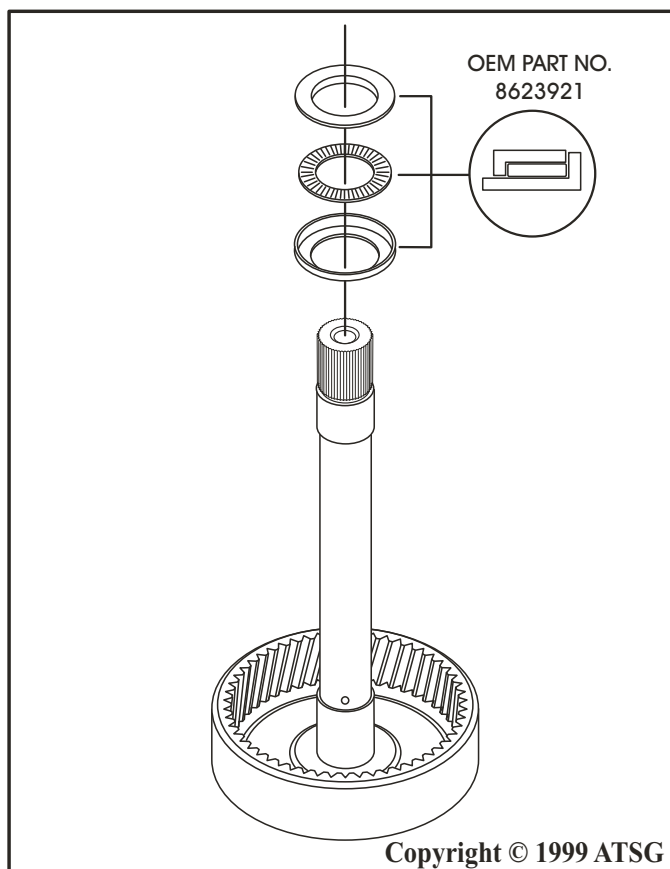

Figure 59
10. Install the lower needle bearing race from the 8623921 package over the main shaft and onto the ring gear with the lip facing up, as shown in Figure 59.
11. Lubricate with small amount of transmission fluid and install the needle bearing assembly into the lower race (See Figure 59).
12. Install the upper needle bearing race on top of the needle bearing with the inside lip facing down, as shown in Figure 59.